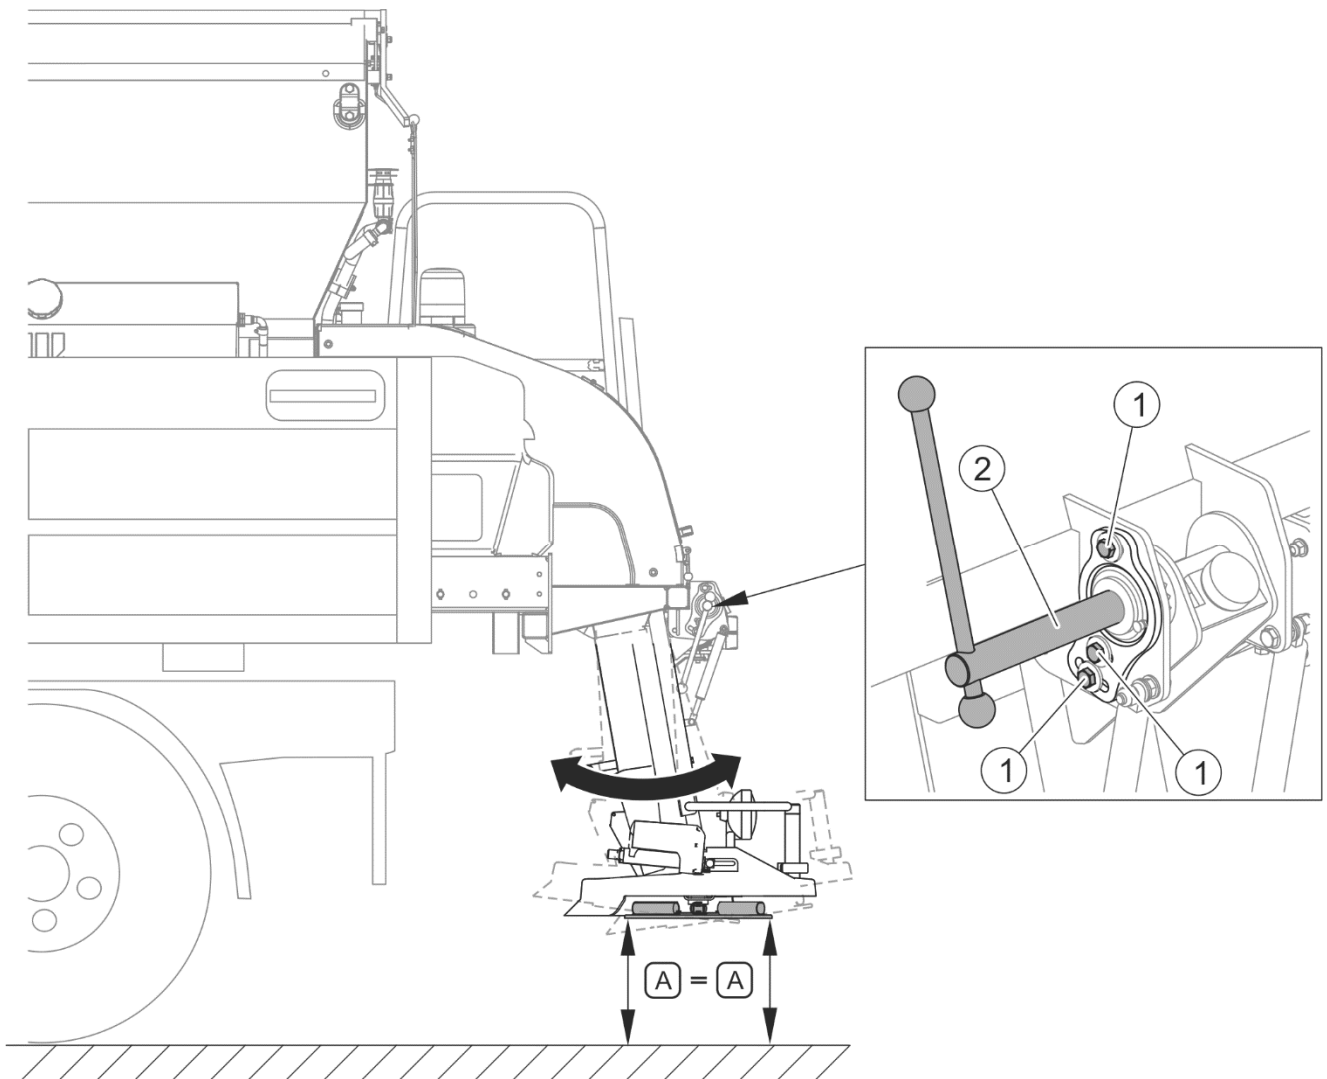

FIGURE 4.10 Levelling the spreading disc
(1) - M10x35 bolt; (2) - clamp bolt
During operation, the spreading disc should be levelled. To check that the spreading disc is level, measure the distances between the disc and the ground in two extreme points (A) to confirm that the distances are the same (FIGURE 4.10). Otherwise, make adjustment as follows:
- check that clamp bolt (2) is tightened,
- loosen three bolts (1),
- shift the spreading mechanism forwards or backwards in order to set the spreading disc in such a manner that distances (A) are the same,
- tighten bolts (1).